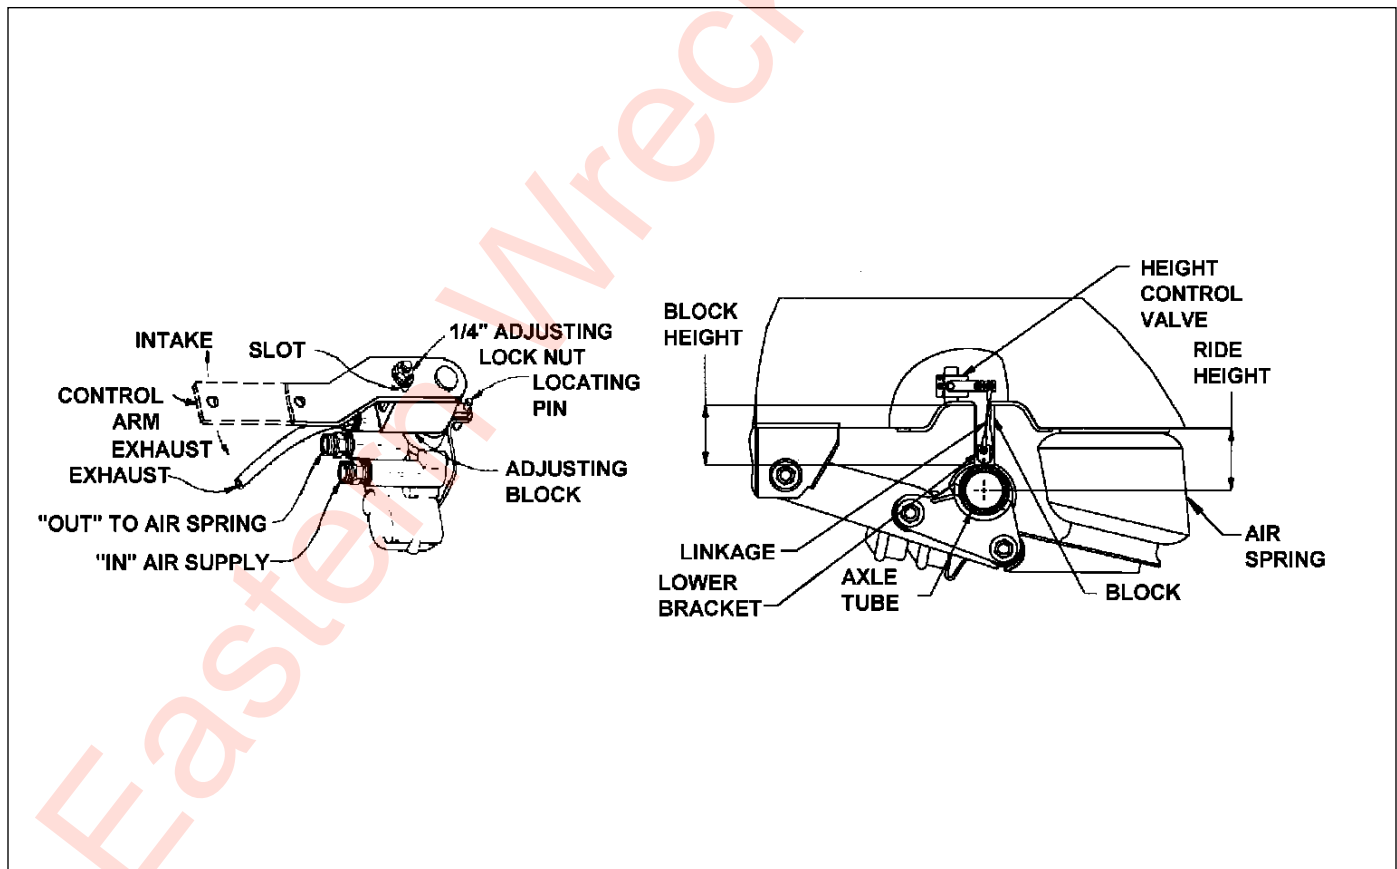

Figure 4-5: Air Ride Height Adjustment
See Figure 4-5 for parts identification.
2. Disconnect linkage at the control arm and raise control arm to the "up" position, raising the trailer until a block can be placed between axle tube and undercarriage frame (See Figure 4-5.)
6. Loosen the 1/4" adjusting lock nut located on the adjusting block, allowing the control arm to move approximately 1 inch. Move the adjusting block until holes align, then insert locating pin (See Figure 4-5.)